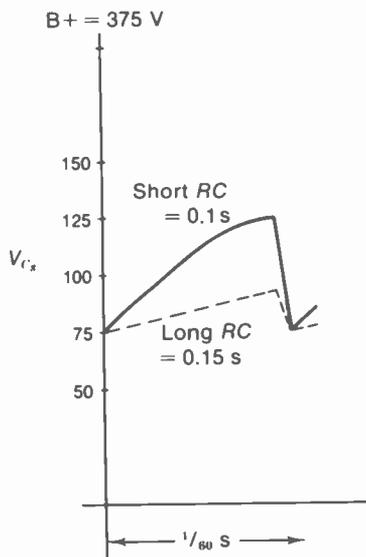

FIGURE 20-14 EFFECT OF VARYING THE TIME CONSTANT FOR  $C_x$  IN FIG. 20-11, WITH HEIGHT CONTROL AT MINIMUM AND MAXIMUM  $R$ .
**Effect of  $C_x$  time constant on amplitude and linearity.** Figure 20-14 shows the effect on sawtooth voltage amplitude when the height control in Fig. 20-11 is varied. For zero resistance in  $R_3$ , the time constant of  $R_3C_x$  equals 0.1 s. This is approximately six times longer than the vertical scanning period of 0.016 s. Therefore,  $C_x$  can take on enough charge to raise its voltage by one-sixth the net charging voltage, since the charging time equals one-sixth of the time constant.